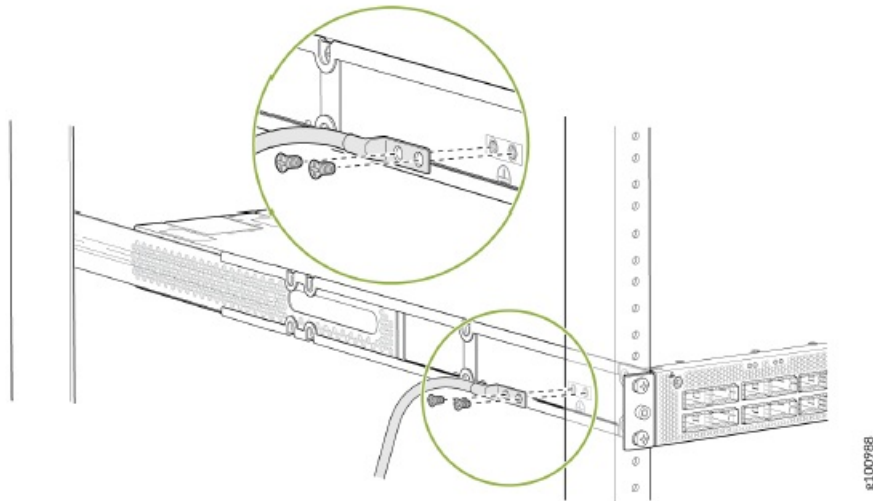

Figure 9: Connect a Grounding Cable to a PTX10001-36MR Device
2. Secure the grounding lug to the protective earthing terminal with the washers and screws. See Figure 9 on page 10.